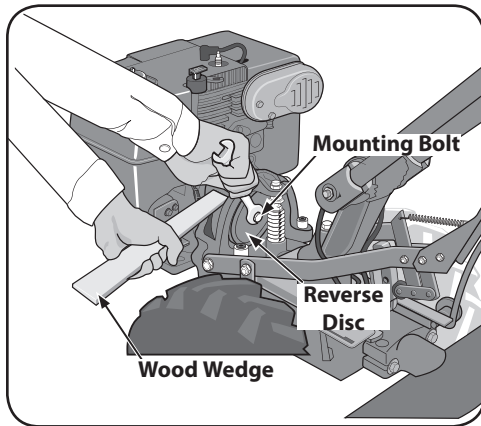

Figure 5-6
3. Use a  $\frac{9}{16}$ " wrench to loosen the mounting bolt shown in Figure 5-6. Remember to immobilize the pulley with the wood wedge while loosening the bolt. If necessary, pry the disc from the pulley with the tip of a screwdriver. Back the bolt out as far as possible. Then angle the disc a little to remove it. Bring the bolt and lockwasher along with the disc. Installing a new Reverse Disc.